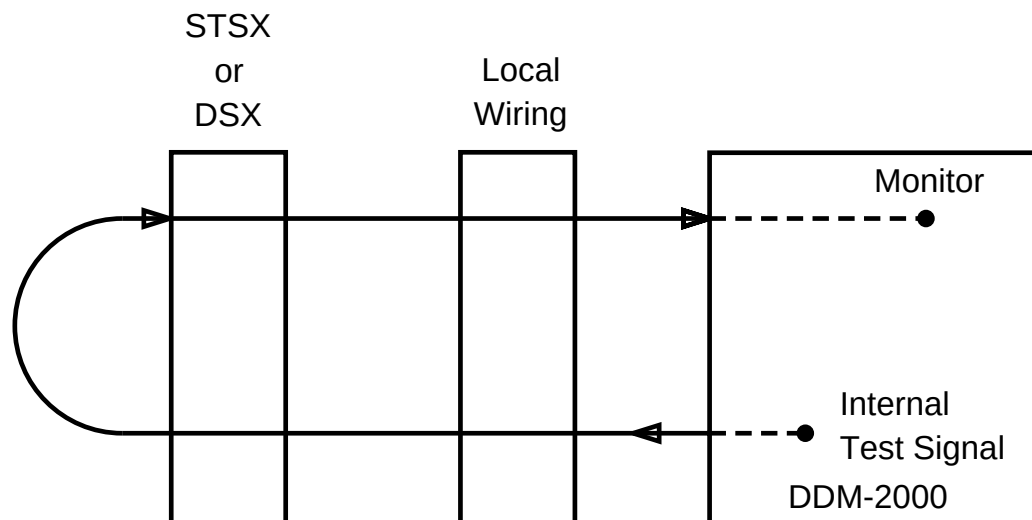

Figure 11-14. Automated Test of Local Wiring to Cross-Connect (test-auto:md=dsx)
The cross-connect test checks the low speed DS1 and DS3 interfaces to detect cross-connect wiring or internal equipment problems. If the cross-connect mode is set to manual (**crs=manual**), as set by the **set-ne** command, then manual cross-connections must be entered before this test is run. Loopbacks must also be set up at the DSX before this test is run as shown in Figure 11-14. Additionally, all DS3s under test must be provisioned for clear channel (CC) mode to avoid any alarms during the test.